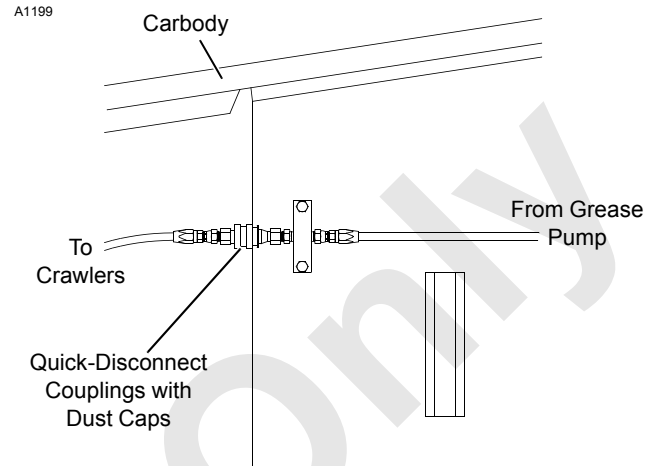

FIGURE 4-7
4. If equipped with automatic crawler lube system, connect grease line from crawler to quick-disconnect coupling on carbody (Figure 4-7).